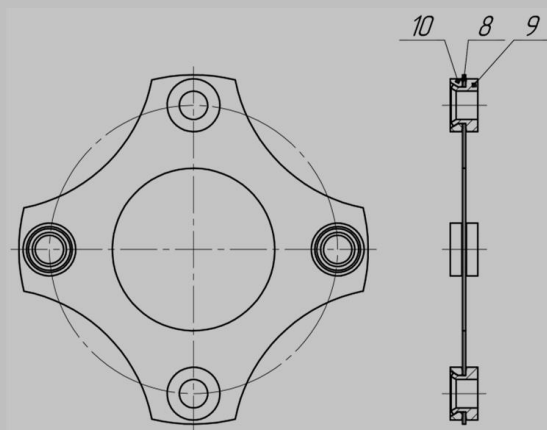

Figure 2
3.1.7. Each plate pack unit (**Fig. 2**) comprises plate pack **8**, bushings **9** and washers **10**. The elements are joined by pressing. The plate pack unit is interchangeable and can be supplied as a spare part for the coupling repair.
- Replace nuts with nylostop nuts **6** included in complete set of delivery. First, tight the nuts tentatively, and then tight them until stop with torque quoted in **Table 3**. To avoid the package splitting, the state of plates (flexible elements) **8 (Fig. 2)** must be controlled. In case when splitting occurs it is necessary to weaken nuts tightening until the shape of the plate (element) and continuity of the package are fully restored. After that the tightening process should be started over.
- Examine the peripheral plates (flexible elements) state in packs **8** (**Fig. 2**).